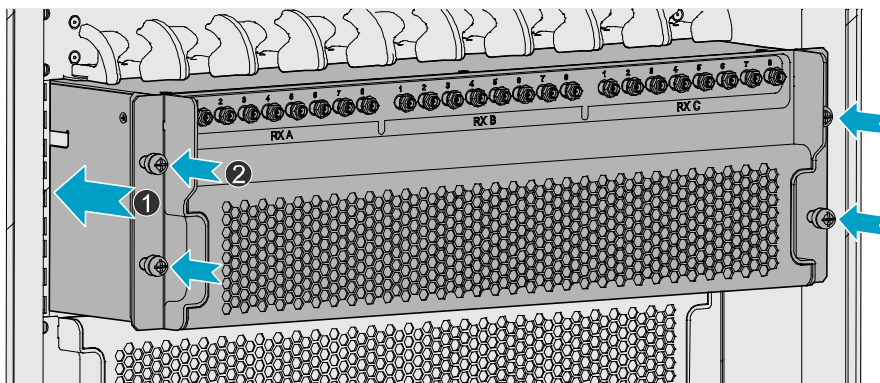

Figure 3-13 Installing the Divider Unit
Step 5 Install the DIU as shown in Figure 3-13.